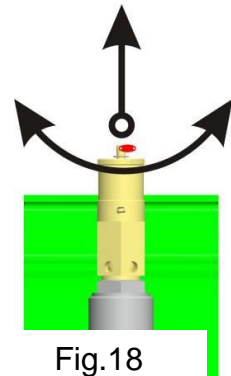

Fig.18
17.6. Check safety valve operation (Fig. 18)